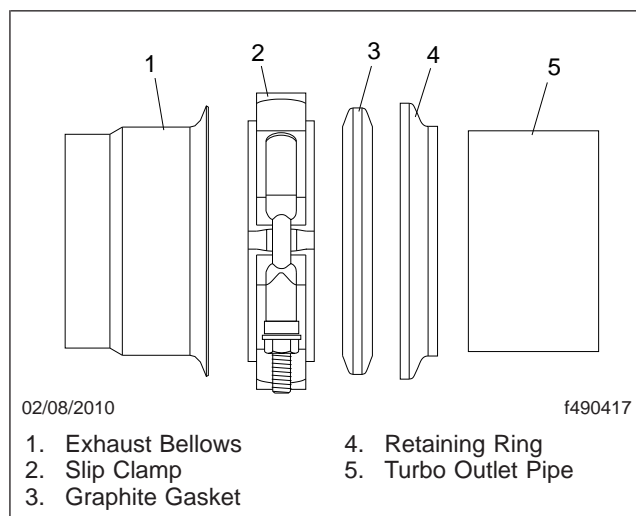

Fig. 6, Forward Facing Slip Clamp Installation
10. Install the slip clamp with the retaining ring and graphite gasket ring onto the turbo outlet pipe. See Fig. 6 for proper installation.